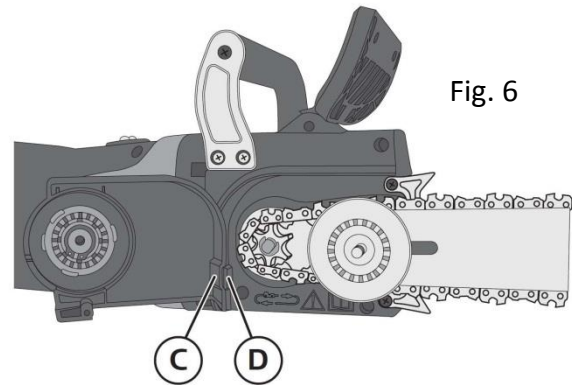

Fig. 6
5. Fit the saw chain so that it passes over the drive sprocket and in the guide track all the way round the guide bar (See fig. 6).